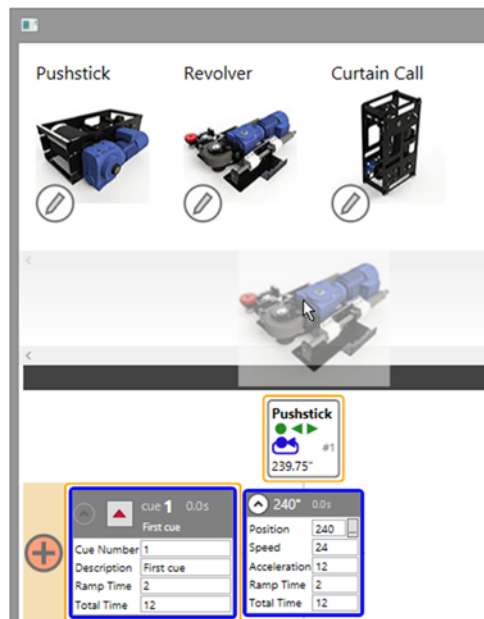

Figure 72
3. Drag one of the machines from the **Machine Library** panel and drop it on either the **Stage Model Viewer** or the **Cue Grid** (Figure 72).